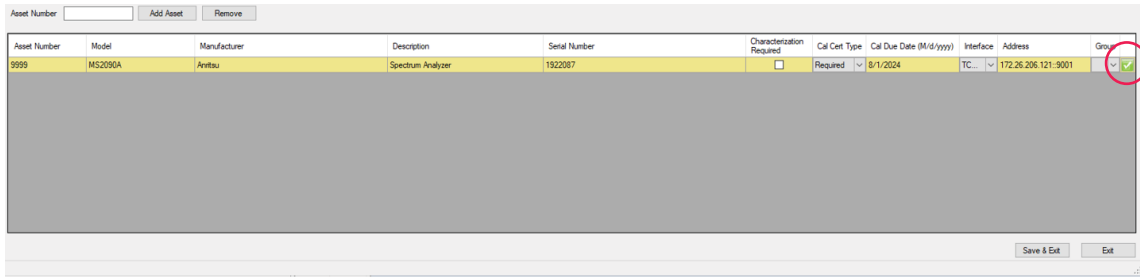

Figure 4-12. Information Pass/Fail Indicator
- 4. Press the last button in the row. A red indicates there is incorrect information and green indicates the unit is ready for use. See Figure 4-12.